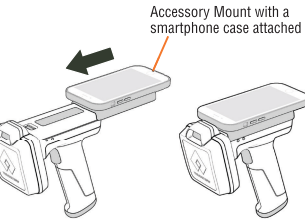

FIGURE 3: Mounting a device onto the Indium Pro Reader
- Align the Accessory Mount with the rails on the Indium Pro Reader, and slide it into position in the direction indicated in Figure 3. The mount will 'click' into place.